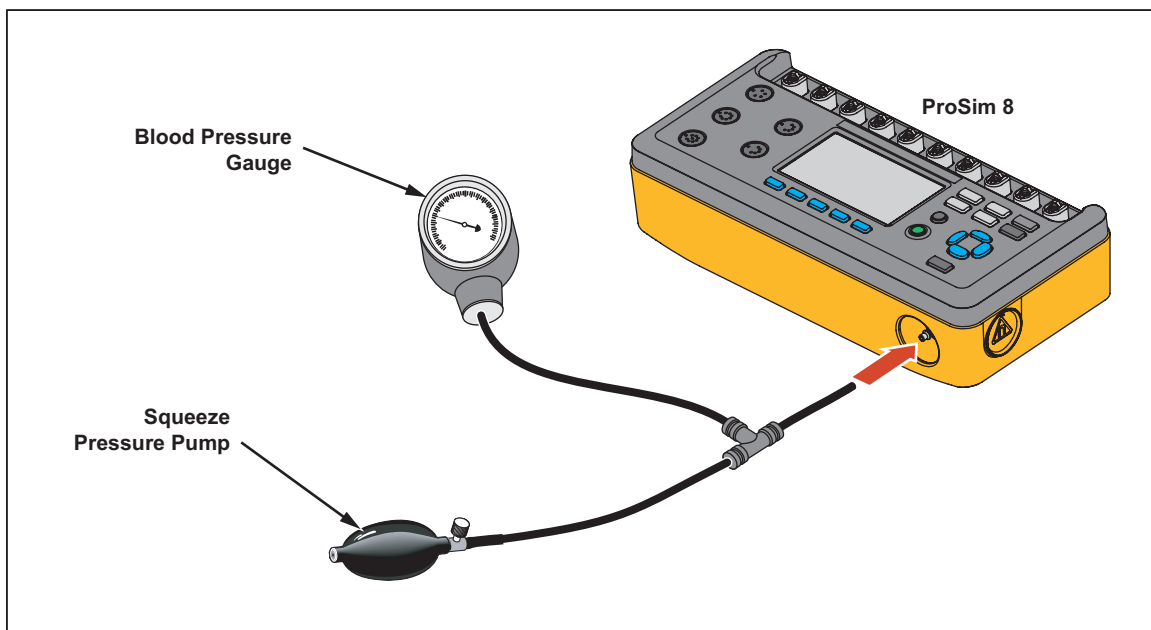

Figure 42. Manometer Connections
1. Connect the pressure port to a pneumatic system as shown in Figure 42.